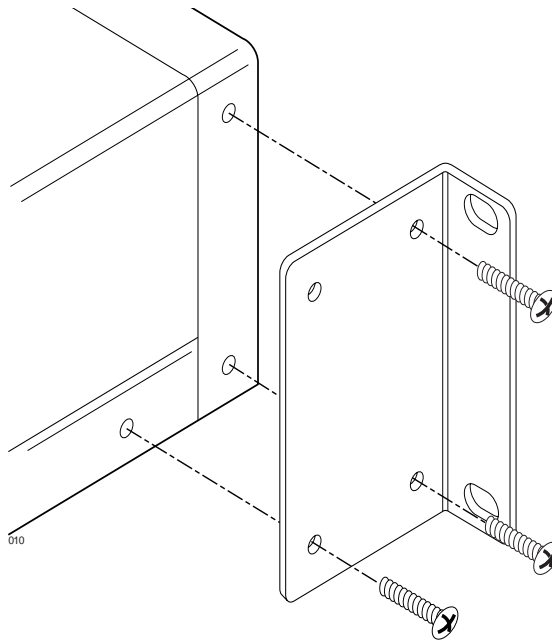

Figure 3 Position Mounting Brackets for Rack Mount
1. Connect the two mounting brackets to the switch using the supplied screws as shown in Figure 3.